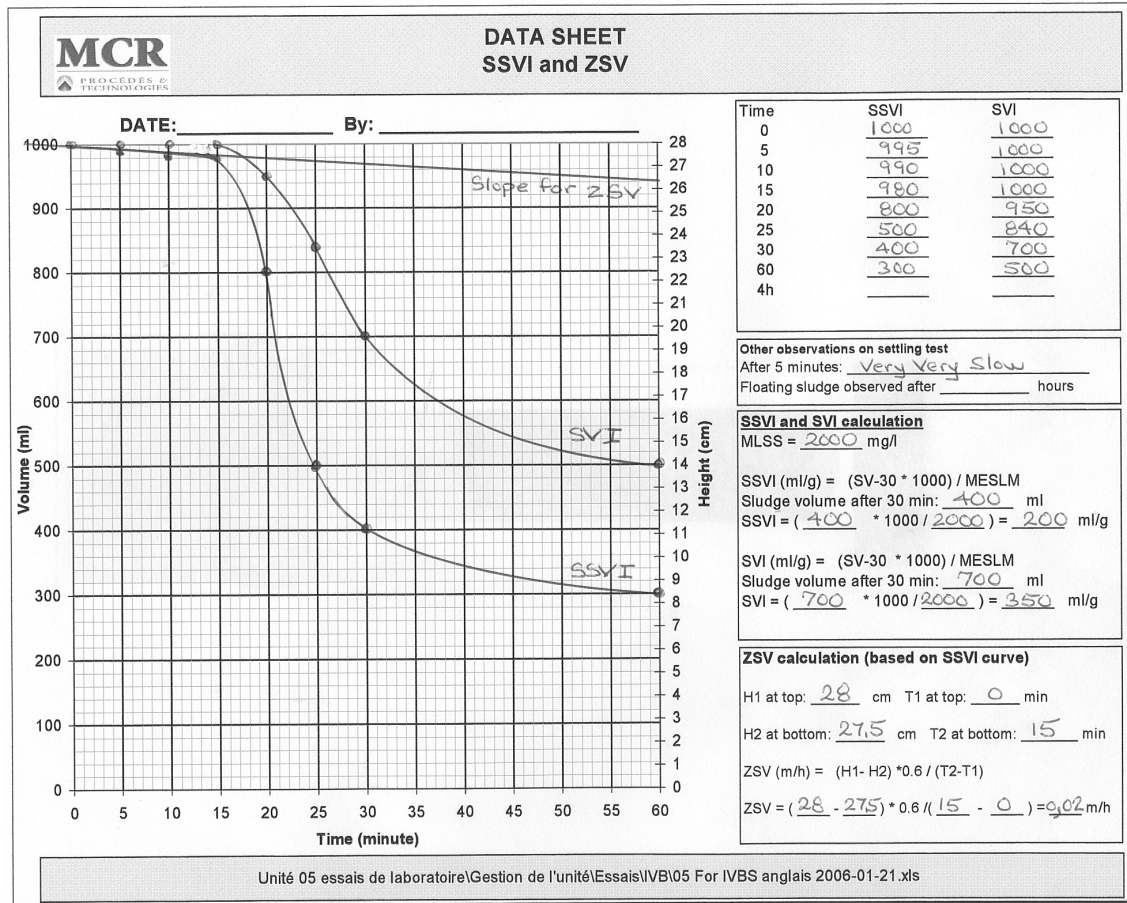

Figure 6.2 : Example of sludge settling very slow
- From figure 6.2, for the SSVI we have after 30 minutes a sludge volume in the cylinder of 400 ml and a MLSS concentration of 2000 mg/l:
- From figure 6.2 for the SVI we have after 30 minutes a sludge volume in the cylinder of 700 ml and a MLSS concentration of 2000 mg/l:
- From the SSVI curve on figure 6.2, the first continuous slope ended at 15 minutes with a corresponding height in the cylinder of 27,5 cm.